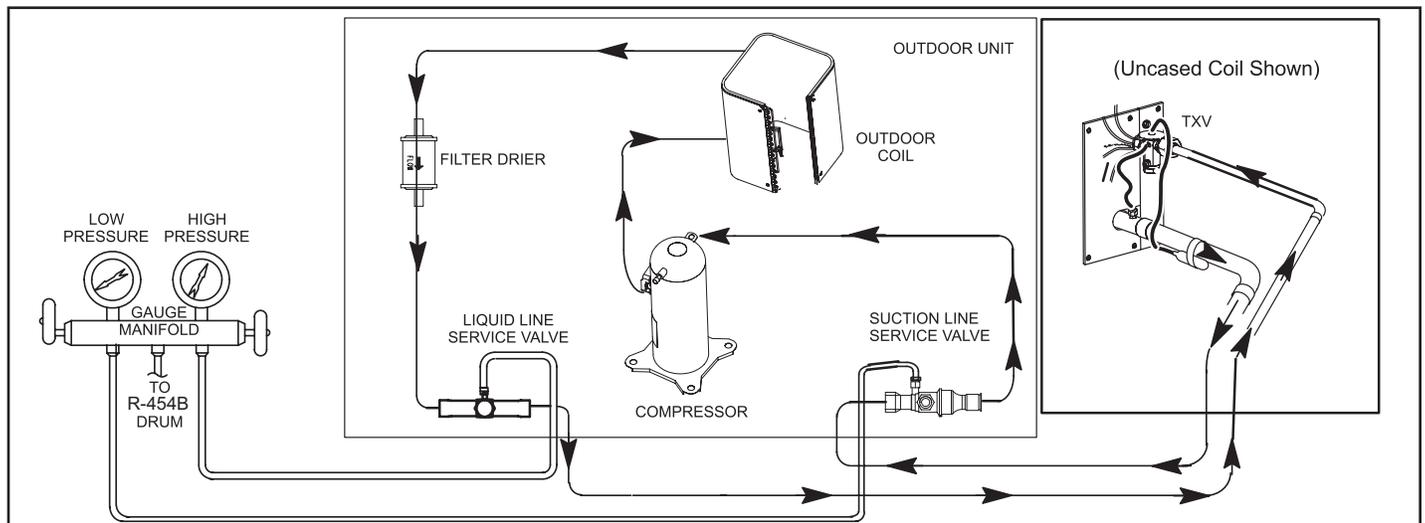

FIGURE 4
- *Without Torque Wrench:* Finger tighten and use an appropriately sized wrench to turn an additional 1/6 turn clockwise as illustrated in FIGURE 4.